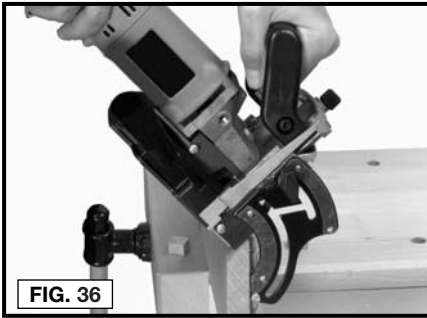

FIG. 36
6. Position tool to workpiece utilizing either guide notch (FF) or (GG) to align tool with a groove centerline. Apply pressure to auxiliary handle (B) to hold tool firmly in place.
7. Hold tool firmly as shown in Figure 36, and squeeze trigger switch to start tool.